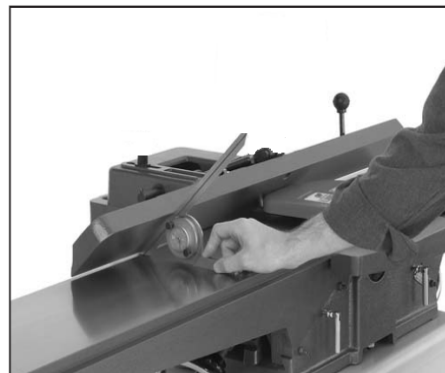

Figure 16
1. Using a 45° square, adjust the fence to the 45° inward position, as shown in Fig. 16